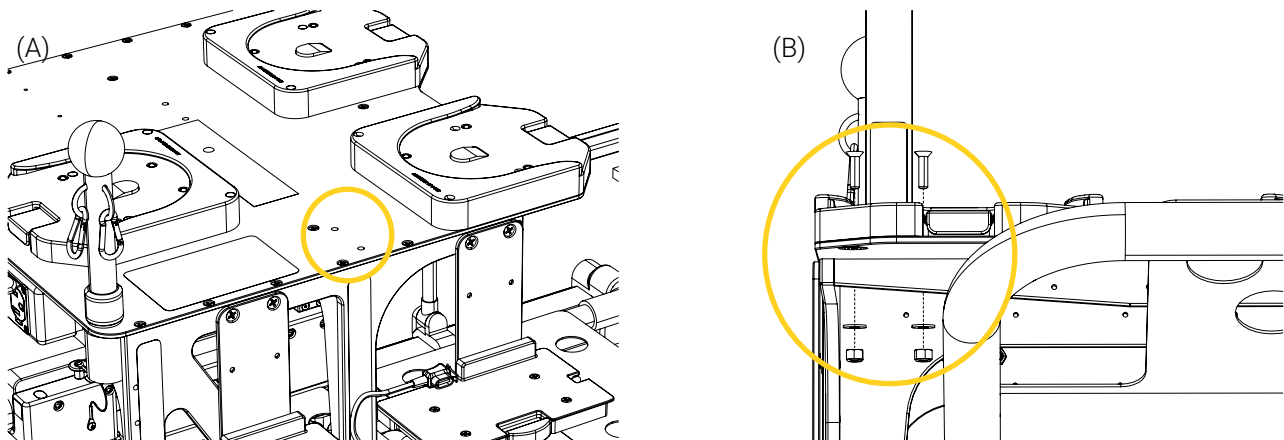

Figure 45: Installing the Techni-IV pole
2. Locate the two (2) holes on the mobile structure top plate intended for the installation of the Techni-IV pole (Figure 45 A).
3. On the mobile structure top plate, install the Techni-IV pole using two (2) flat head Phillips drive screws ¼ - 20 X 1 in. (Figure 45 B).
4. From under the mobile structure top plate, insert a washer and locknut on the stem of each screw, then tighten using a key 7/16 in. and a Phillips screwdriver #2 (Figure 45 B).